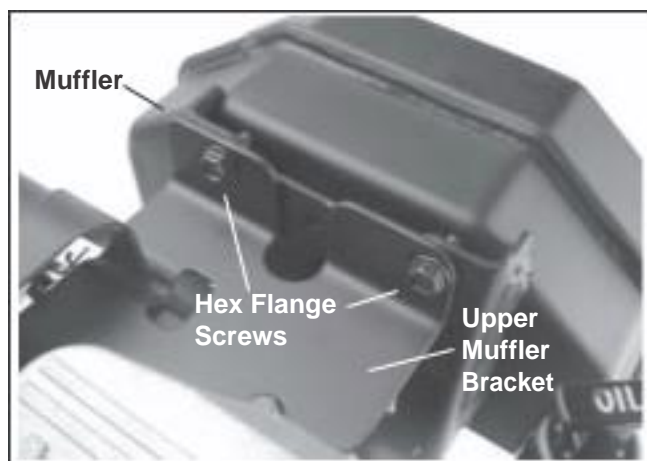

Figure 9-2. Removing Muffler.
1. Remove the four hex flange screws securing the muffler to the upper and lower mounting brackets. See Figures 9-2 and 9-3.